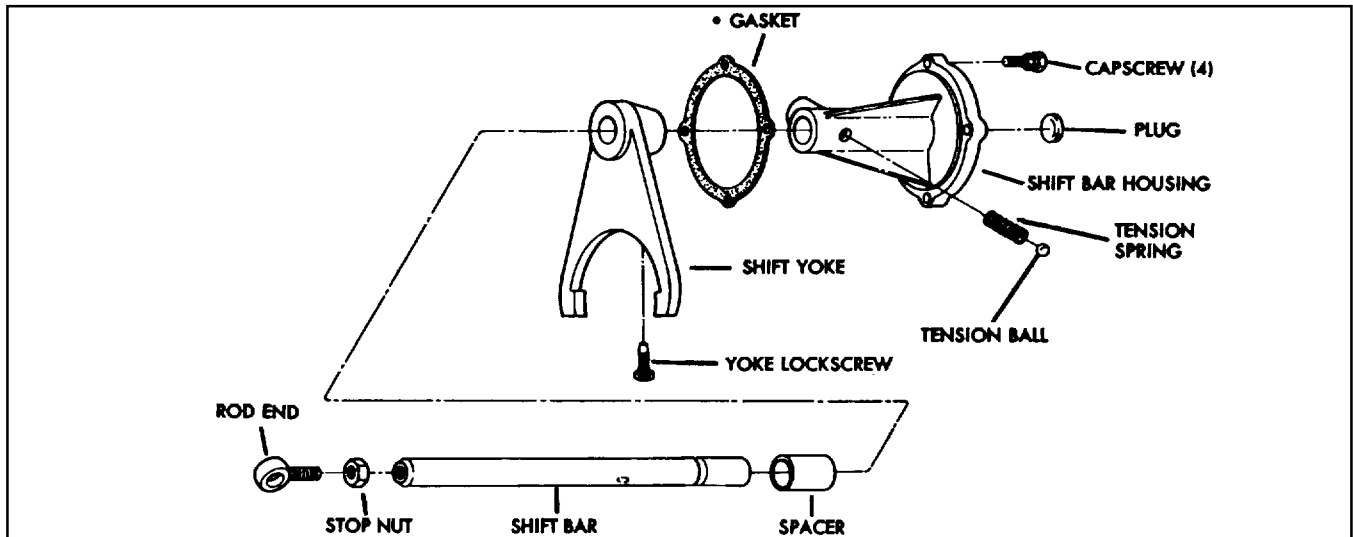

Fig. 2
- (a) Loosen the stop nut and turn the rod end from the end of the shift bar (see Fig. 2).